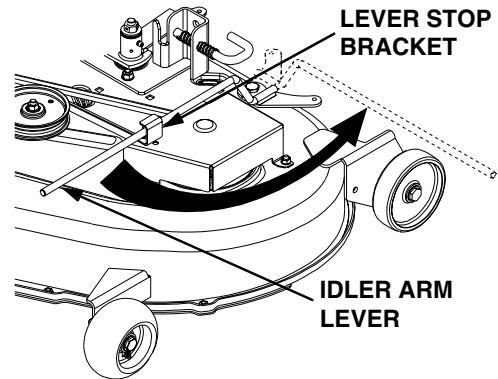

Figure 58
- Disengage the deck idler arm lever from its stop bracket and release the spring tension by rotating the lever out and rearward (Refer to Figure 58).